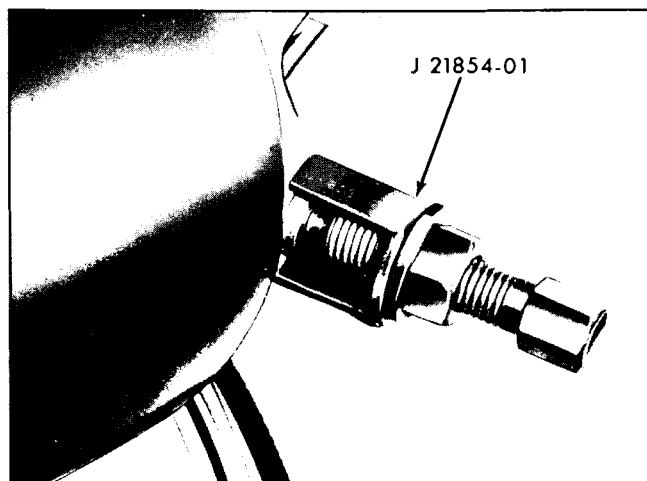

Fig. 9-55 Removing Pivot Pin
14. Remove two pivot pins with tool J 21854-1 (Fig. 9-55).